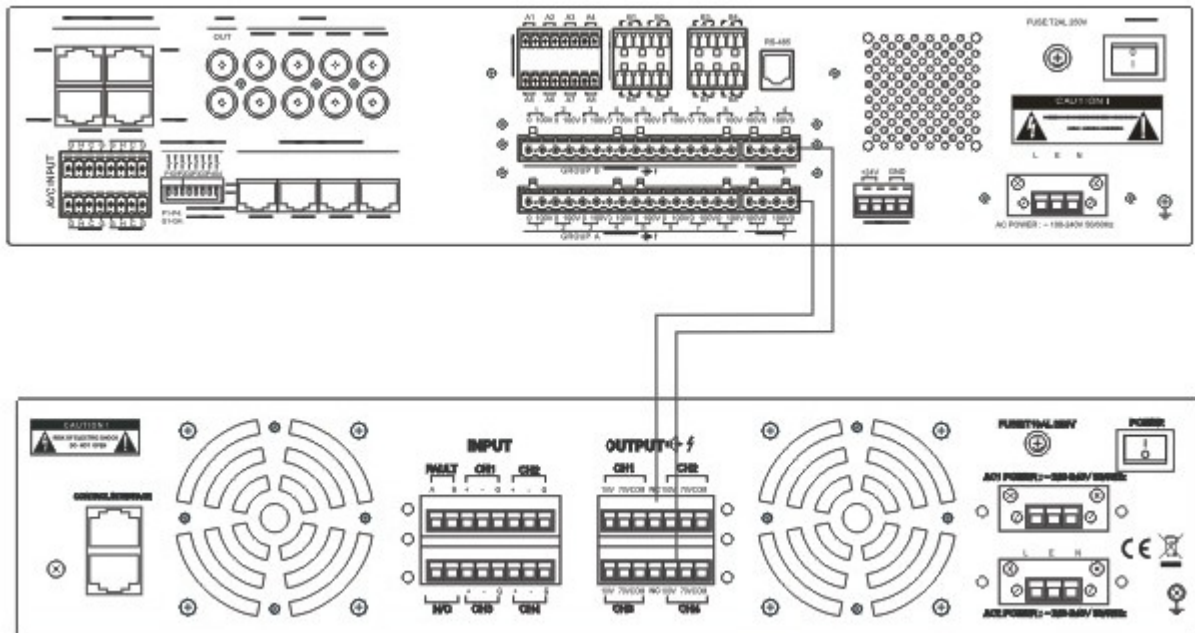

Figure 11 Output cable connection
5. Connect the other end of the output cable to the DCS PA audio input terminal, as shown in Figure 11.